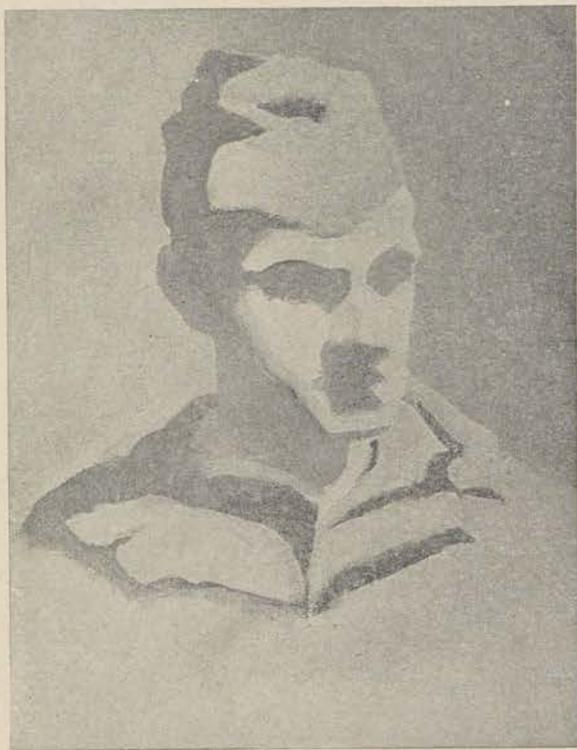

Figure 248.
c. **FIRST STAGE** (fig. 248). Sketch the outline of the head on your canvas in charcoal. Indicate lightly the placing of the main features. Do not attempt a